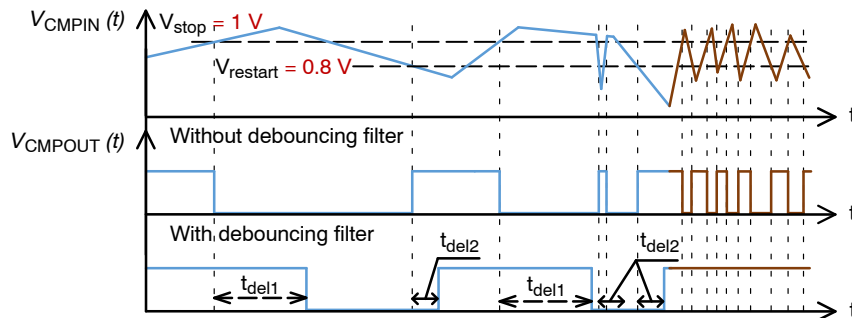

Figure 52. Over-temperature/Over-current Detection with/without De-bouncing Filter
Over-temperature detection is based on pull-down PTC thermistor connected to CMPIN pin. Internal current source force the current value $I_{ref1} = 120 \mu\text{A}$ through the PTC. If the over-temperature condition appears, the resistance of the PTC thermistor increases, i.e. the sensed voltage reaches the value $V_{stop} = 1 \text{ V}$ and the comparator turned-on the internal MOSFET, which force the COMPOUT pin to the Low state. The de-bouncing time constants $t_{del1} = 50 \mu\text{s}$ and $t_{del2} = 10 \mu\text{s}$ on comparator output can be implemented as an option. The COMPOUT pin goes back to High Z state, when the sensed voltage on PTC decreases below the value $V_{restart} = 0.8 \text{ V}$. Figure 52 shows the comparator operation with/without de-bouncing filter based on input voltage on CMPIN pin.